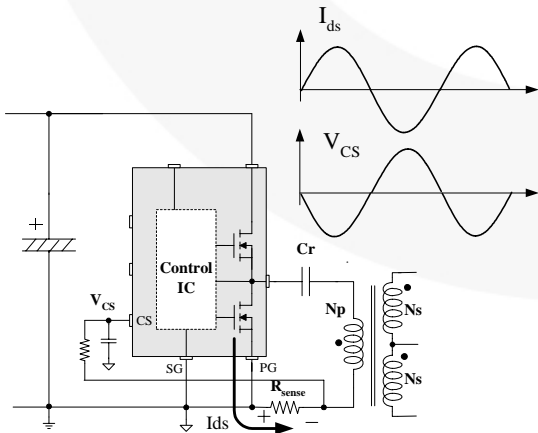

**Figure 24. Protection Blocks**
**5. Protection Circuits:** The FSFR-series has several self-protective functions, such as Overload Protection (OLP), Over-Current Protection (OCP), Abnormal Over-Current Protection (AOCP), Over-Voltage Protection (OVP), and Thermal Shutdown (TSD). OLP, OCP, and OVP are auto-restart mode protections; while AOCP and TSD are latch-mode protections, as shown in Figure 24.